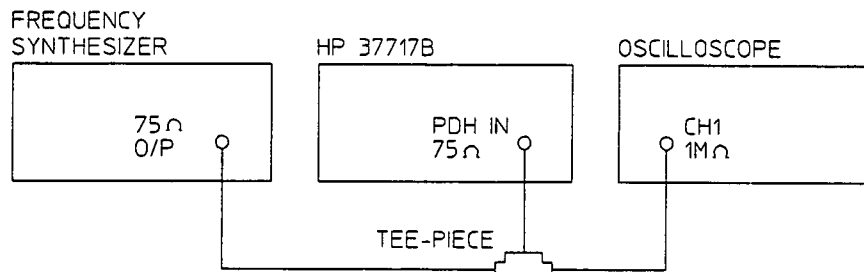

Figure 3-22. PDH Receiver Equalization Test Setup
2. Connect up the equipment as shown in Figure 3-22.